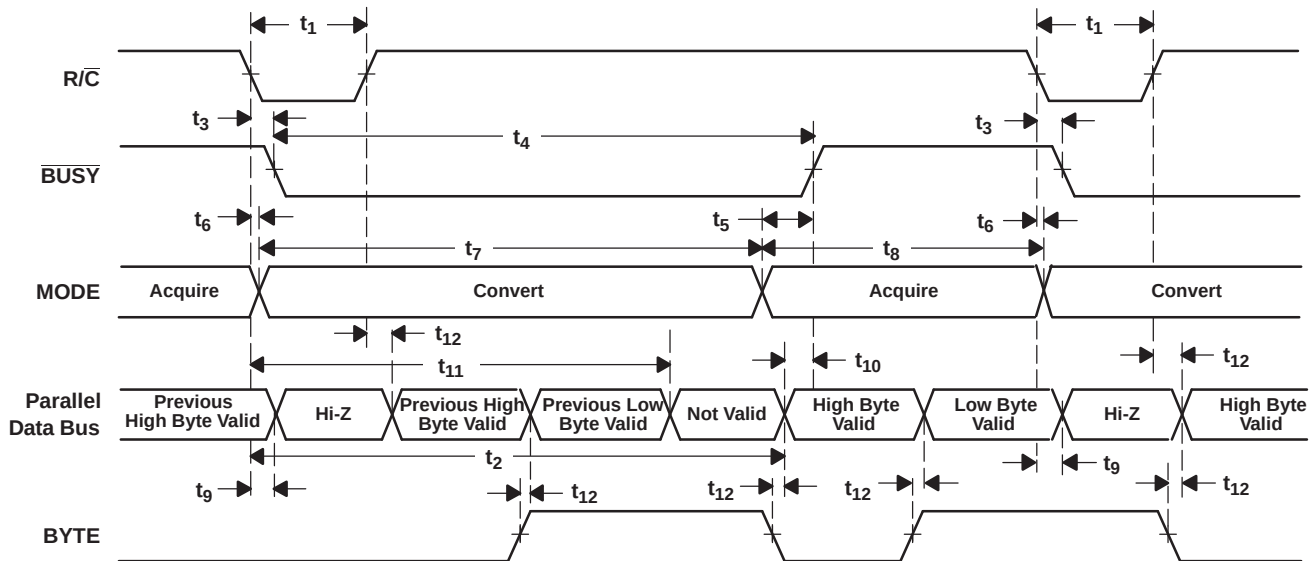
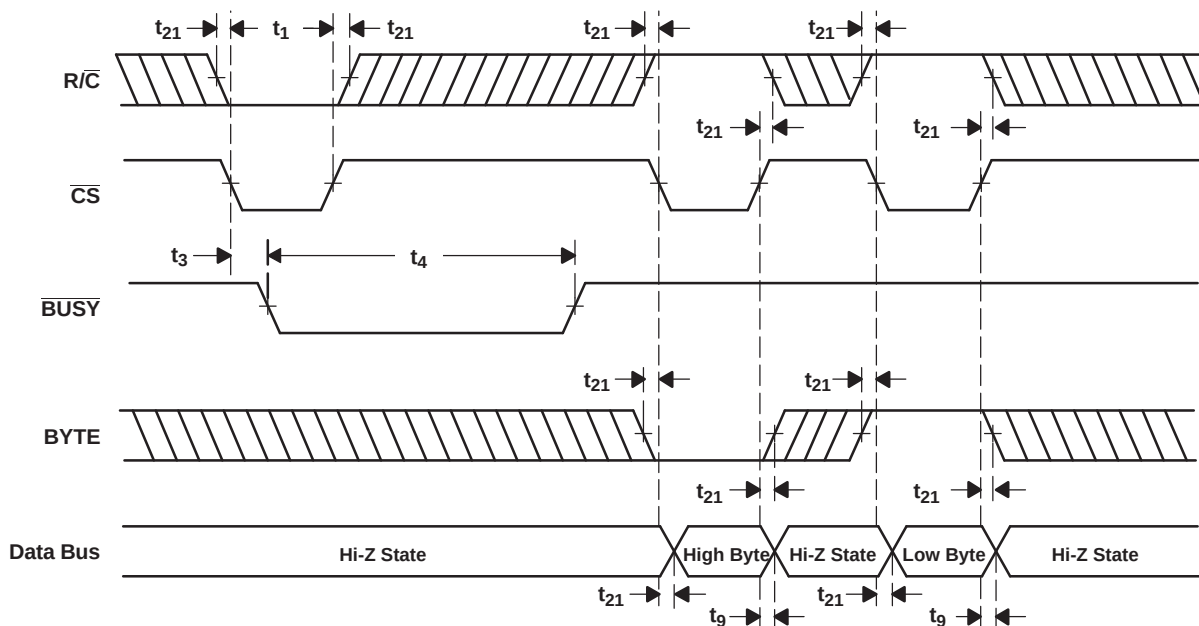

Figure 33. Conversion Timing With Parallel Output ($\overline{\text{CS}}$ and DATACLK Tied Low, EXT/INT Tied High)
Figure 34. $\overline{\text{CS}}$ to Control Conversion and Read Timing With Parallel Outputs
The ADS8506 begins tracking the input signal at the end of the conversion. Allowing 25 μ s between convert commands assures accurate acquisition of a new signal. Refer to Table 2 and Table 3 for a summary of $\overline{CS}$, $R/\overline{C}$, and $\overline{BUSY}$ states, and Figure 33, Figure 34, Figure 35, Figure 36, Figure 37, Figure 38, and Figure 39 for timing diagrams.
(1) See Figure 33 and Figure 34 for constraints on data valid from conversion $N-1$.
After conversion N is completed and the output registers have been updated, $\overline{\text{BUSY}}$ (pin 24) goes high. Valid data from conversion N is available on D7-D0 (pin 9-13 and 15-17). $\overline{\text{BUSY}}$ going high can be used to latch the data. Refer to Table 5 and Figure 33 and Figure 34 for timing specifications.
After conversion N has been initiated, valid data from conversion $N-1$ can be read and is valid up to 12 μs after the start of conversion N . Do not attempt to read data beyond 12 μs after the start of conversion N until $\overline{\text{BUSY}}$ (pin 24) goes high; this may result in reading invalid data. Refer to Table 5 and Figure 33 and Figure 34 for timing constraints.